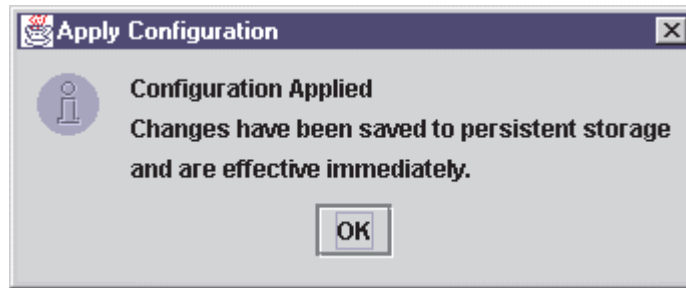

Figure 93. Apply Configuration dialog window
- Click **Apply** to apply the new configuration. The new configuration is saved to the persistent configuration file; it will be used the next time the system is restarted. The new configuration remains in memory and is displayed after the apply operation completes. If configuration is successful, the message shown in Figure 93 on page 219 is displayed. Click **OK**.